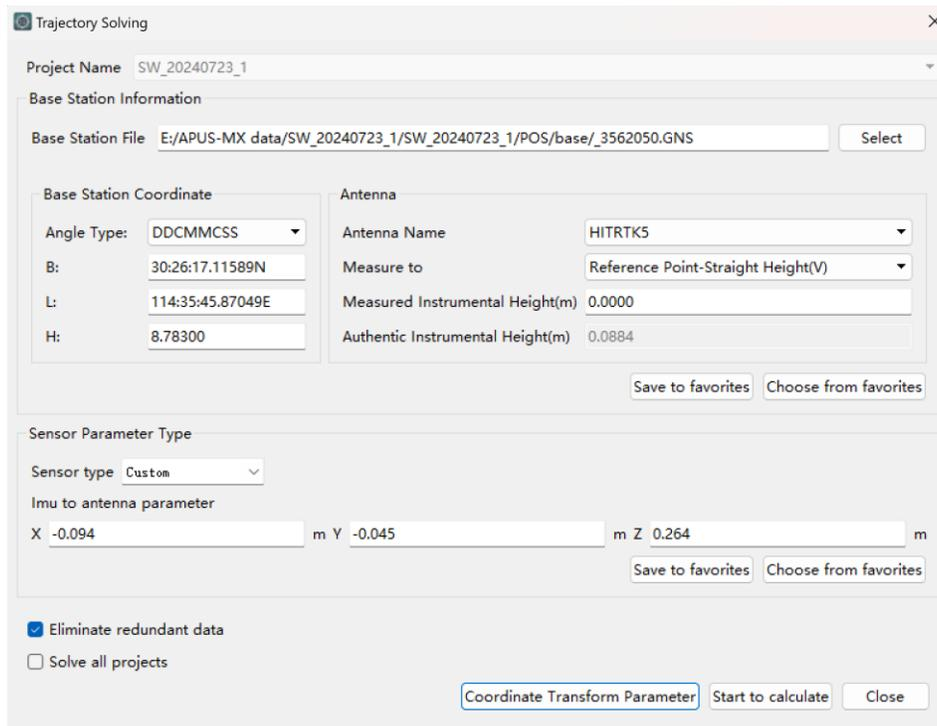

Figure 3-56 Base station information
1. Click menu <Solve>→<Trajectory Solving> to open the solving interface (Figure 3-56);